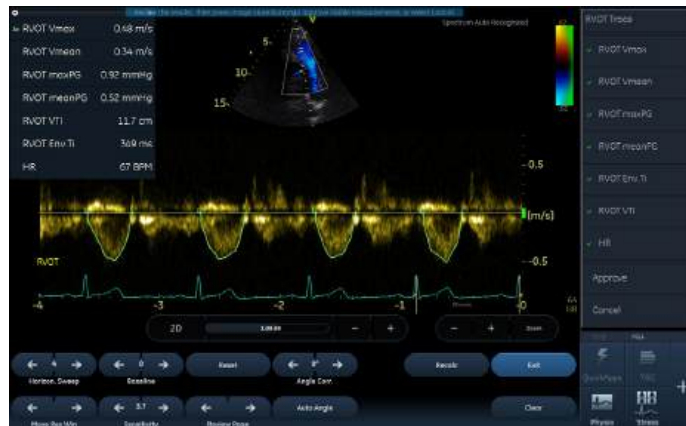

Figure 8-36. Cardiac Auto Doppler Measurement screen
2. The generated trace is created and average measurement values are displayed, see Figure 8-36.